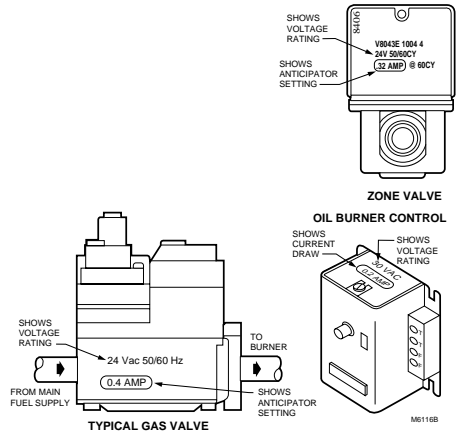

Fig. 6. Locate your system current draw anticipator setting.
- ❑ Be sure you have the current draw anticipator setting for your system. This is the number you wrote in the box in step 2 Remove Old Thermostat section. If you could not find the current draw for step 2, look on your primary control at the furnace. See Fig. 6. (The primary control is usually a gas valve, zone valve, or a relay or burner control box with the thermostat wires connected to it. For electric heat, add the fan relay current, usually 0.2A to 0.4A.)